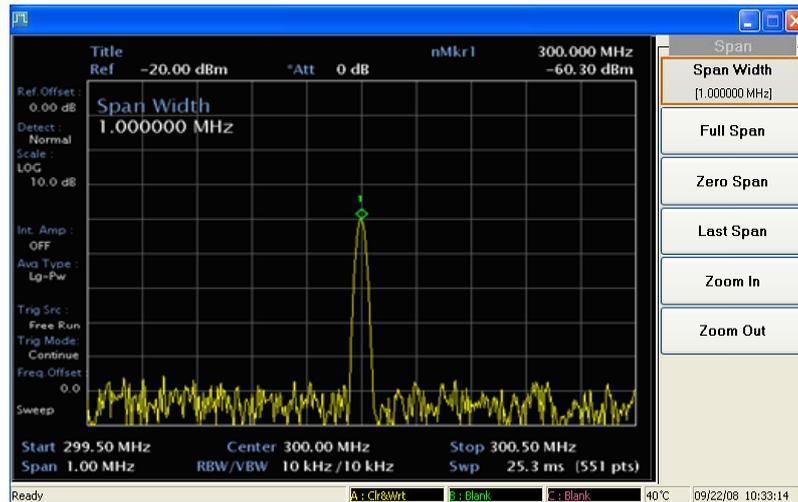

Fig. A-11 Using 0 dB attenuation
- 8 Reduce the span to 1 MHz. Press [SPAN], and then use the step-down key (▼). See Fig. A-11.